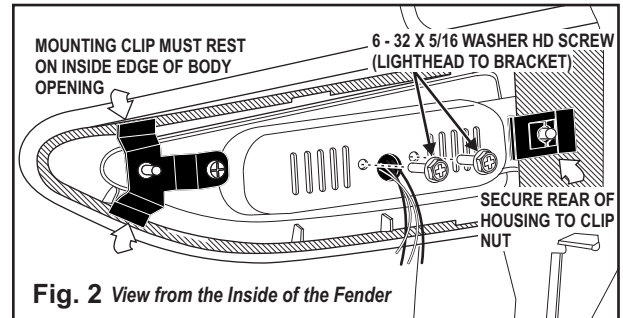

Fig. 2 View from the Inside of the Fender
2. Install the V Series lighthouse into the SideKick™ panel using the 2 supplied washer head screws (Fig. 2).